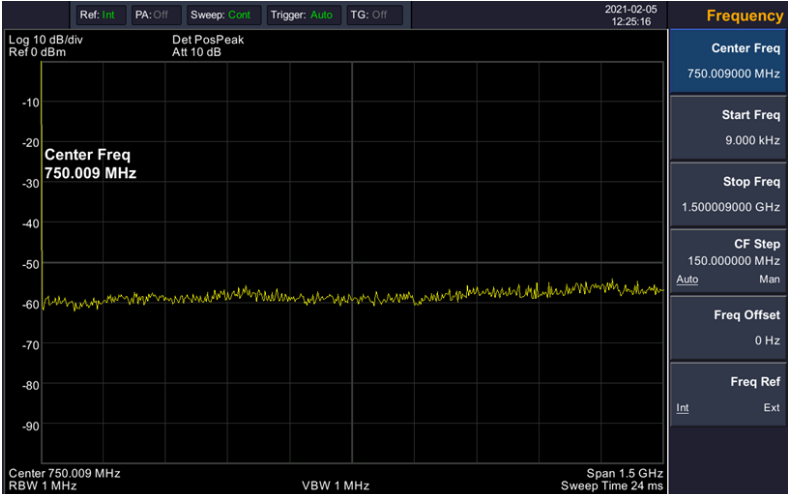

Figure 4-8 Full Span
- 1) Press [Preset] to restore the analyzer to its factory-defined state. The Spectrum analyzer will display the spectrum from 9kHz to the maximum span width. The signal generated will display as a vertical line at 100MHz. Refer to Figure 4-8